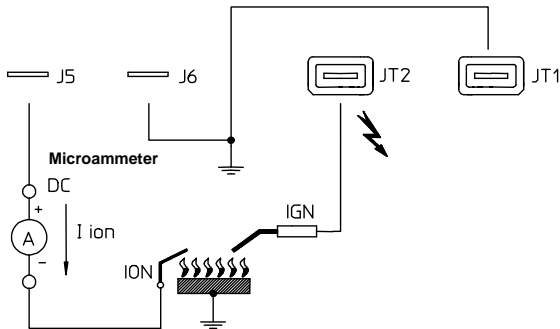

Fig. 7 – Flame signal measurement method in gas versions.
- The level of the flame signal is sufficient (see Fig. 7 and Fig. 8 for the measuring method to be adapted in case of controllers for gas and oil appliances respectively);